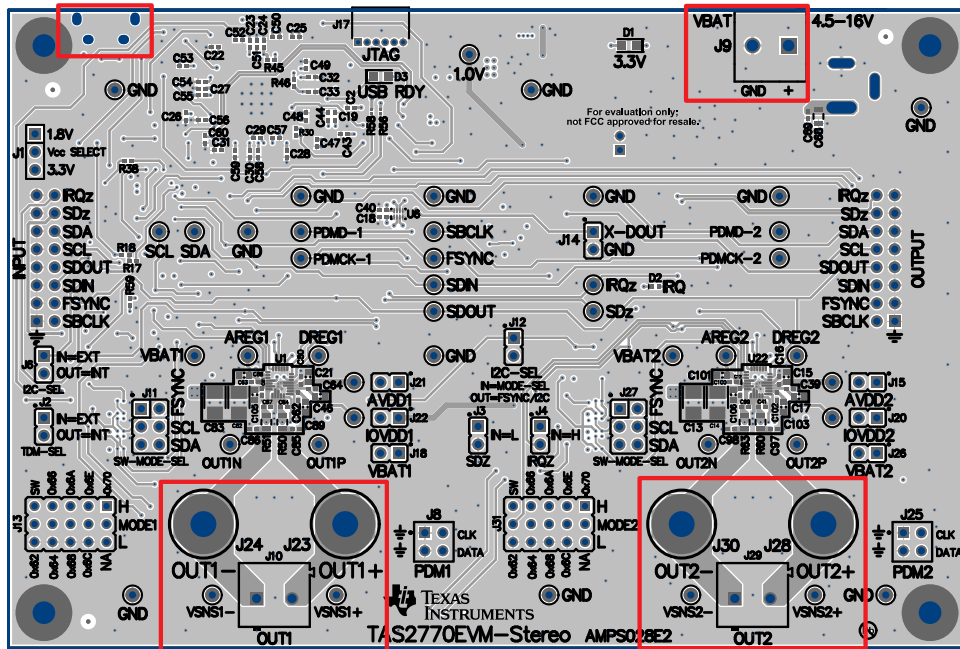

図 3. TAS2770EVM-STEREO Stereo Configuration
3. Connect a second speaker to J29 on the EVM. Alternatively, J28 and J30 can be used for speaker connections (see Figure 3).